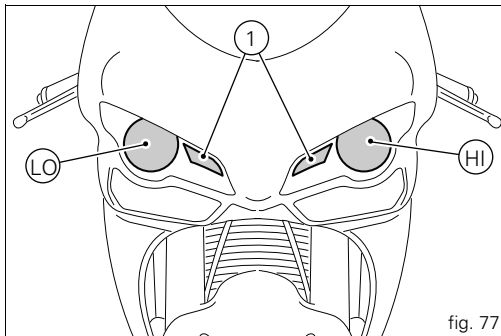

fig. 77
Before replacing a burnt-out bulb, make sure that the new one matches the voltage and wattage specifications in the "Electric System" paragraph on page 119. Always test the new bulb before refitting any parts you have removed. Shown in fig. 77 are the locations of the low beam bulb (LO), high beam bulb (HI) and parking light bulb (1).